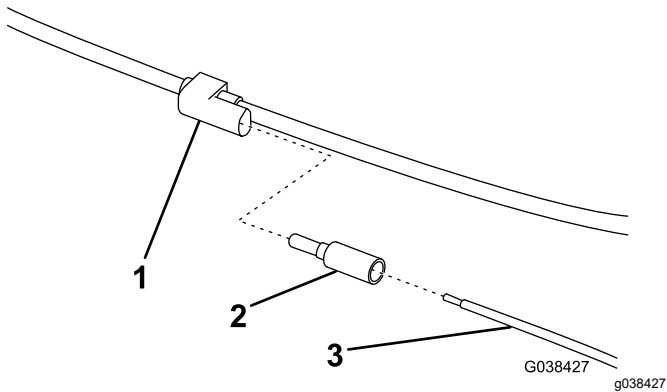

Figure 8
- 12. Connect the black/red wire to a keyed 12 V+ ignition source (Figure 8).